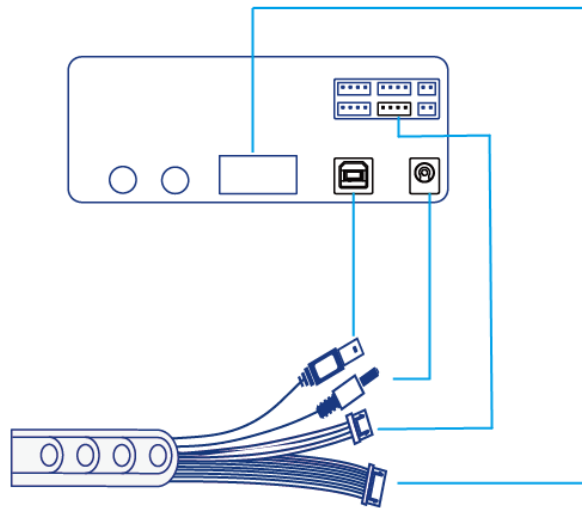

Figure 1.8 Connect to Dobot Magician
Step 5 Connect the interfaces on the end of the wire set to Dobot Magician, as shown in Figure 1.8.